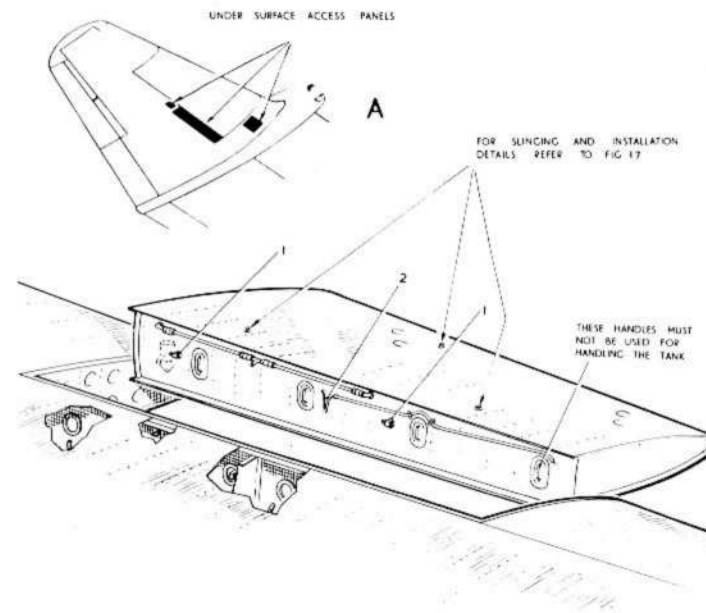

Fig.16. Main plane integral tank removal.
Main plane integral tank (fig. 16)
(8) Fit a picketing eye to the slinging point above and to the picketing point below the main plane, Sect.2, Chap.4, and attach the outer straps detail B.
(9) Tighten up evenly on the knurled nuts, and draw the tank fully home.
(10) Fit the  $\frac{1}{4}$  in. and  $\frac{5}{16}$  in. attachment screws and tighten the screws.
(11) Remove the sling, straps, eyebolts and guide brackets, and replace the blanking plugs.
(12) Remake the following connections at the pump:-
(13) Connect the electrical lead to the fuel gauge unit and vent valve heating element fig.16.
(14) Fit the access panels.